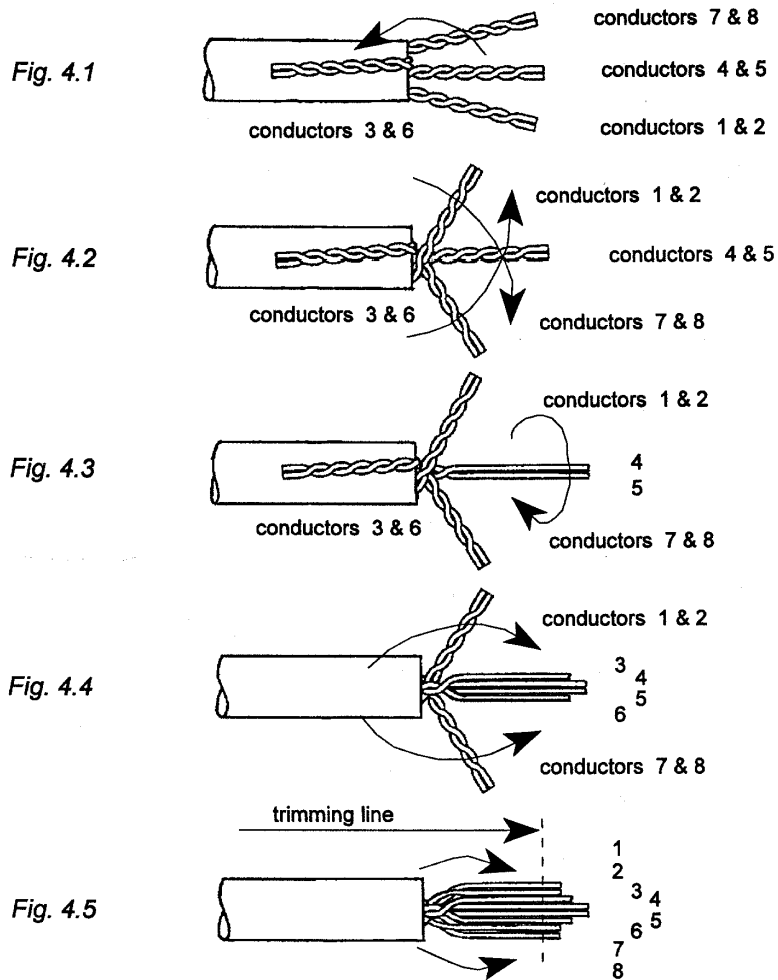

Figure 4: Conductors Arrangement for cables with Unshielded Twisted Pairs
**A. Conductors Arrangement for Cables with Unshielded Twisted Pairs (Figure 4)**